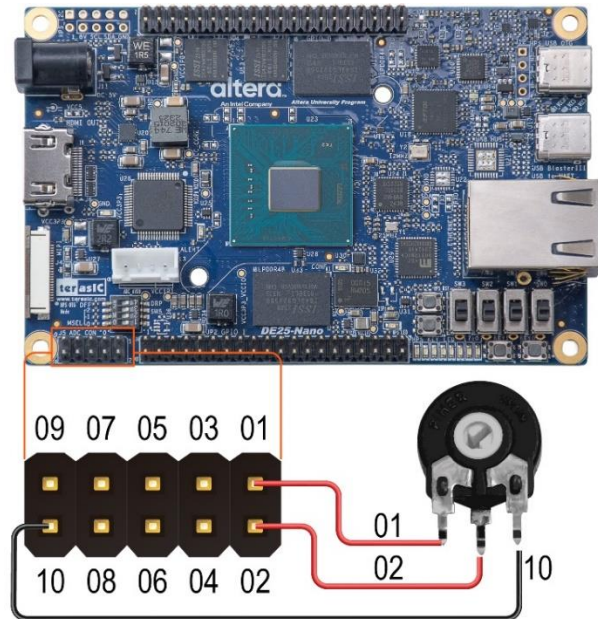

Figure 2-12 Hardware setup for the ADC reading demonstration
1. Connect the trimmer to one of eight for ADC channel on the 2x5 header, as shown in **Figure 2-12**, as well as the +5V and GND signals. The setup shown below is connected to ADC channel 0. **Note, the input voltage do no exceeds 3.3V.**